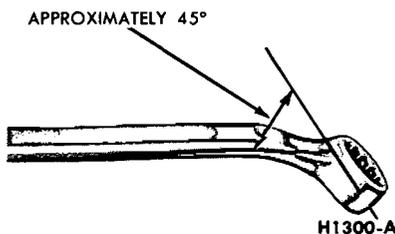

FIG. 6—Brake Bleeder Wrench
1. Position a bent $\frac{3}{8}$ -inch box wrench on the bleeder fitting on the right rear brake wheel cylinder (Fig. 6). Attach a rubber drain tube to the bleeder fitting. The end of the tube should fit snugly around the bleeder fitting.
3. Position a $\frac{3}{8}$ -inch box wrench on the bleeder fitting on the right rear brake wheel cylinder (Fig. 6). Attach a rubber drain tube to the bleeder fitting. The end of the tube should fit snugly around the bleeder fitting.